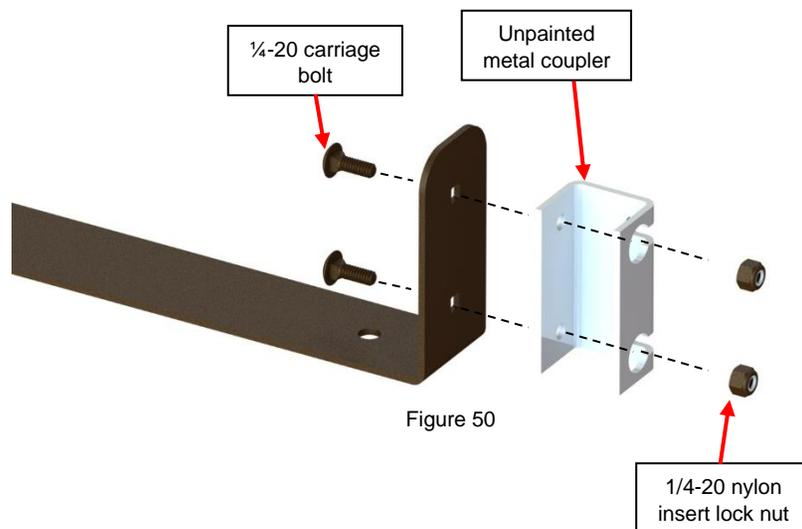

Figure 50
13) Install one unpainted metal coupler on each end of the front frame cut-out. (Figure 50)
14) Align one unpainted metal coupler with the holes on each end of the front frame cut-out. Use the provided 1/4"-20 x 3/4" carriage bolts, 1/4"-20 nylon-insert lock nuts and fasten the hardware with the 7/16" (11 mm) socket wrench and spanner. There is one metal coupler per side. (Figure 50)